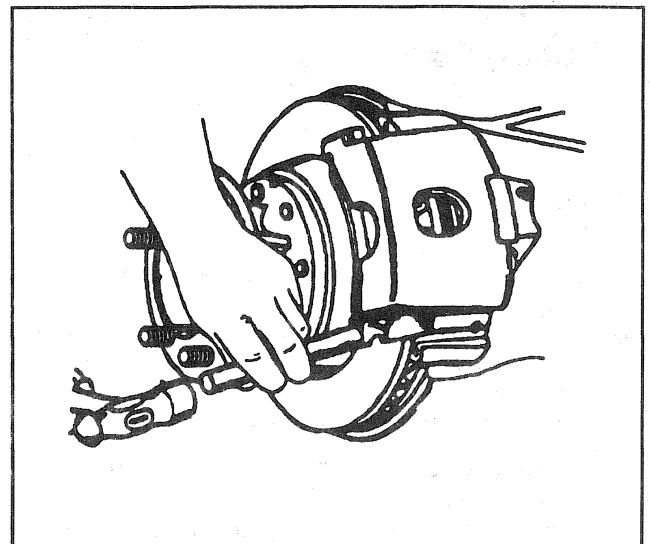

Figure 20—Installing the Caliper Support Key
3. Spring (4) and support key (3).
- Use a brass punch and hammer to drive the support key in place (Figure 20).